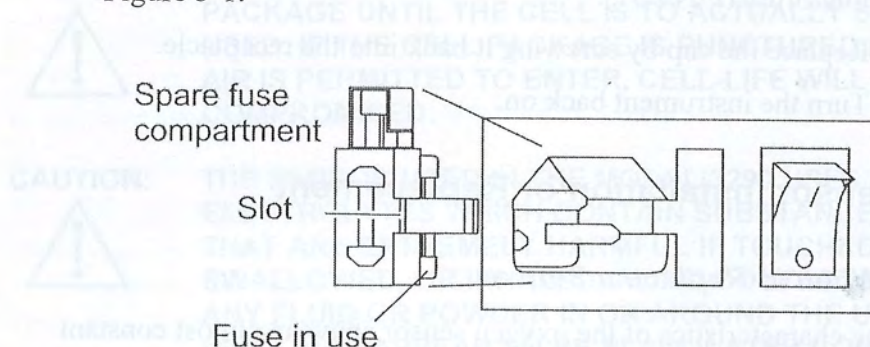

Figure 5-1: AC Fuse Replacement
2. The fuse receptacle is located in the power cord receptacle assembly in the upper left-hand corner of the rear panel. See Figure 5-1.